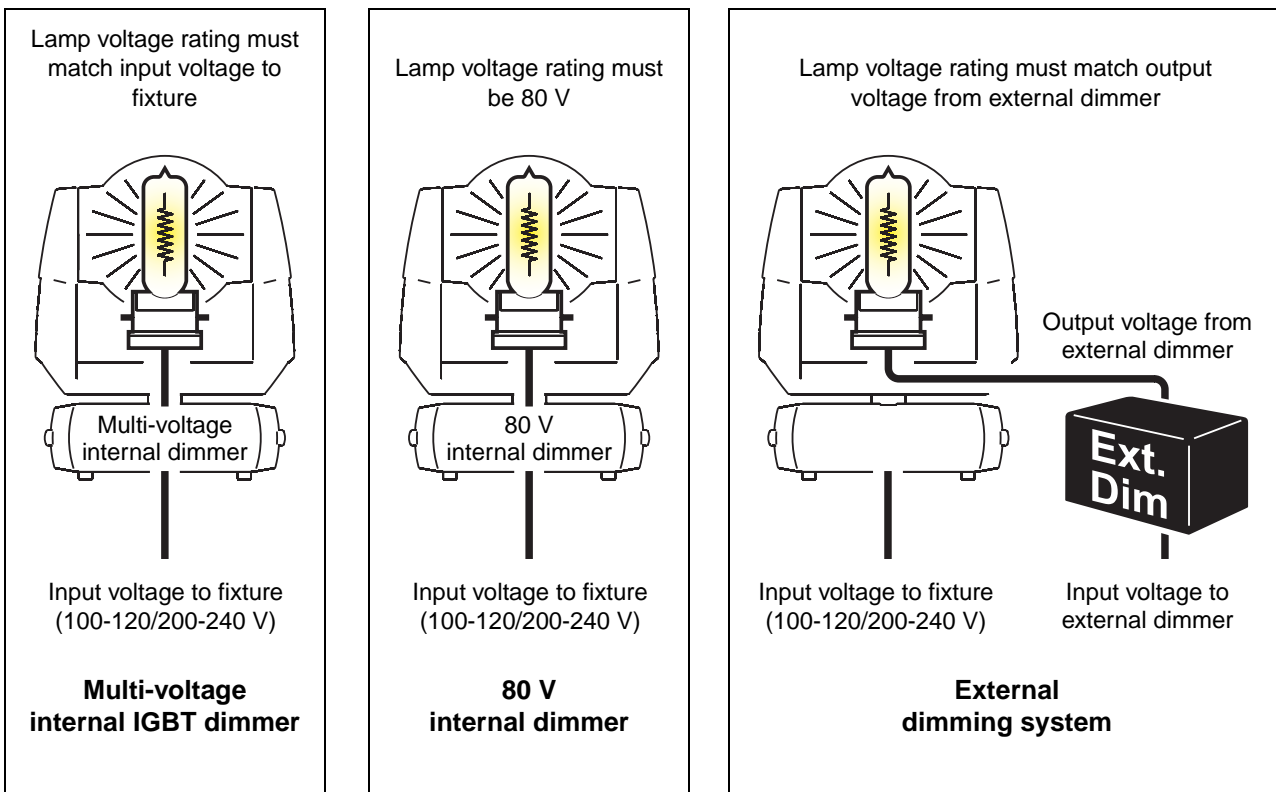

Figure 4: Dimming options and lamp voltage
Three dimming options are available for the MAC TW1. Regardless of which option is used, the voltage rating of the lamp must match the voltage supplied by the dimming device or system (see also Figure 4):
2. See Figure 4. Check that a lamp with the correct voltage rating for the internal dimmer is installed in the fixture.